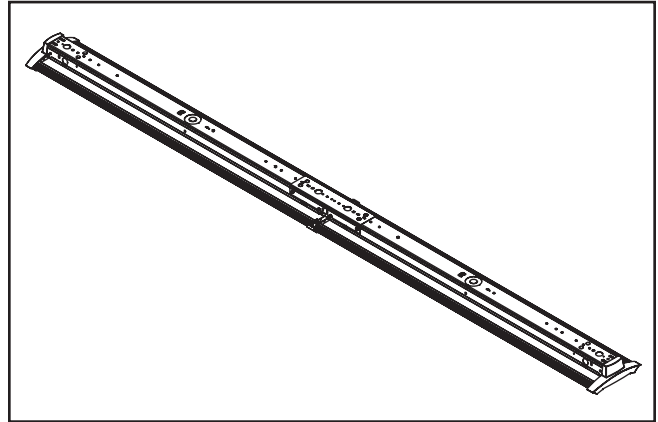

Figure 5.
5. Complete installation according to instructions of standard product. (Figure 5.)